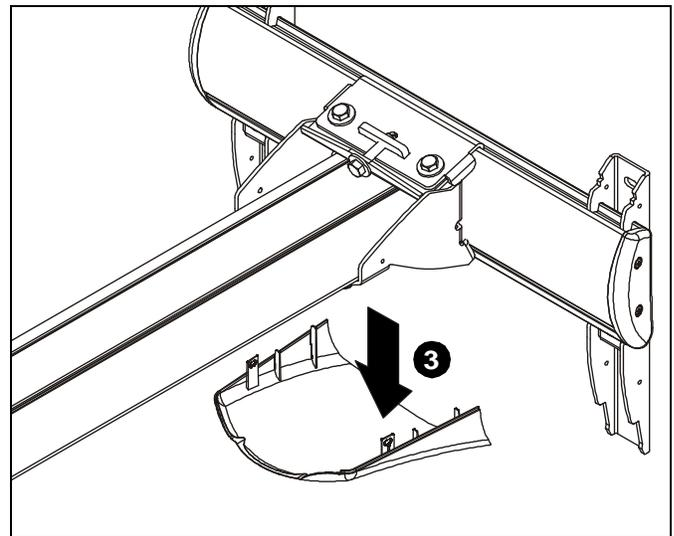

Figure 18
3. Remove lower cover from mount. (See Figure 18)